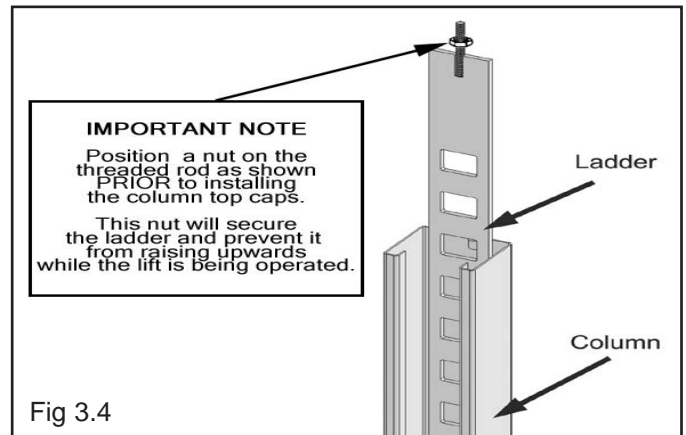

Fig 3.4
4. With the Columns standing and the Cross Tubes in position, install the Safety Ladders. Pass the Ladders through the Column openings and drop down through the Slide Block guide slots on the cross tube until the Ladders come to rest on the Base Plates. **DO NOT BOLT** Columns down at this time. (See Fig. 3.4 - 3.5)